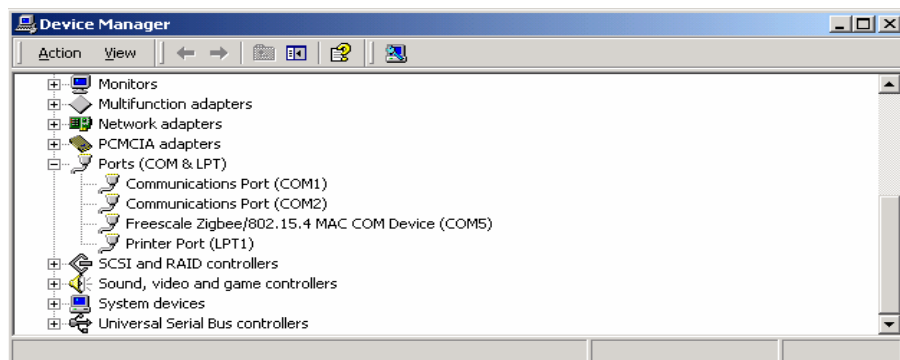

Figure 28. COM Port Determination in Device Manager
- b) Select the Hardware tab, and click the Device Manager button. The Device Manager window appears as shown in Figure 28.
- d) The COM Port selected by the system is titled Freescale ZigBee/802.15.4 MAC COM Device (COM5) as shown in Figure 28.